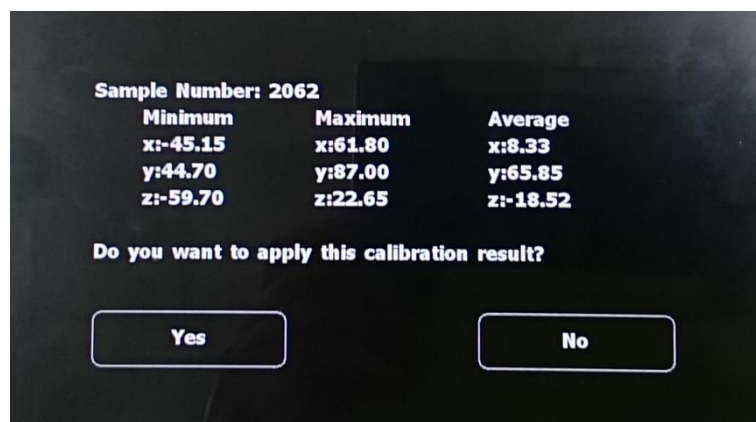

Figure 4-22 Magnetic Calibration Information
- When the Finished button is touched, the LCD content is changed as shown in **Figure 4-22**. The minimal, maximal, and average values are displayed in the LCD. If the value is valid, please touch Yes button to apply the calibration result.